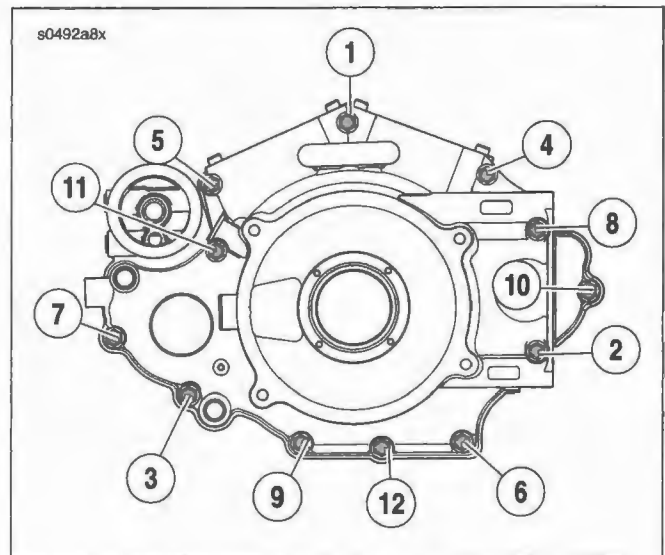

Figure 3-72. Tighten In Sequence Shown
11. See Figure 3-72. Start the twelve crankcase bolts and tighten in the following sequence.